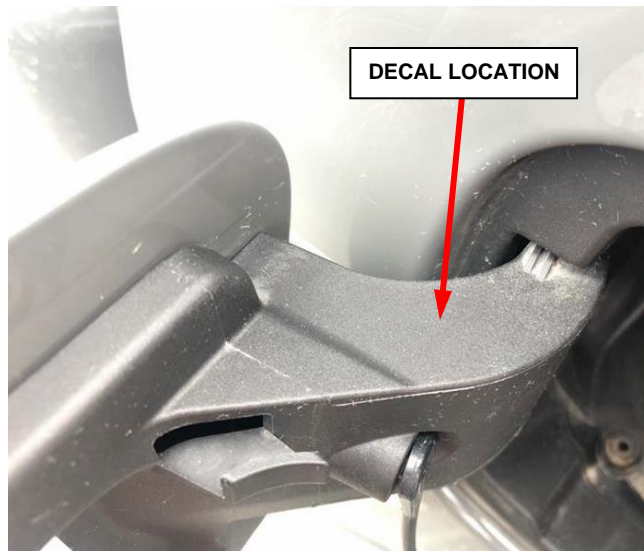

Figure 67 – Fuel Door Hinge Location
NOTE: Do not apply the label over an existing label. Apply the label on a flat surface on the inside of the fuel door. For example, on the top of the fuel door hinge (Figure 67).
4. Apply the fuel door label (Figure 66) to the top of the fuel door hinge (Figure 67).